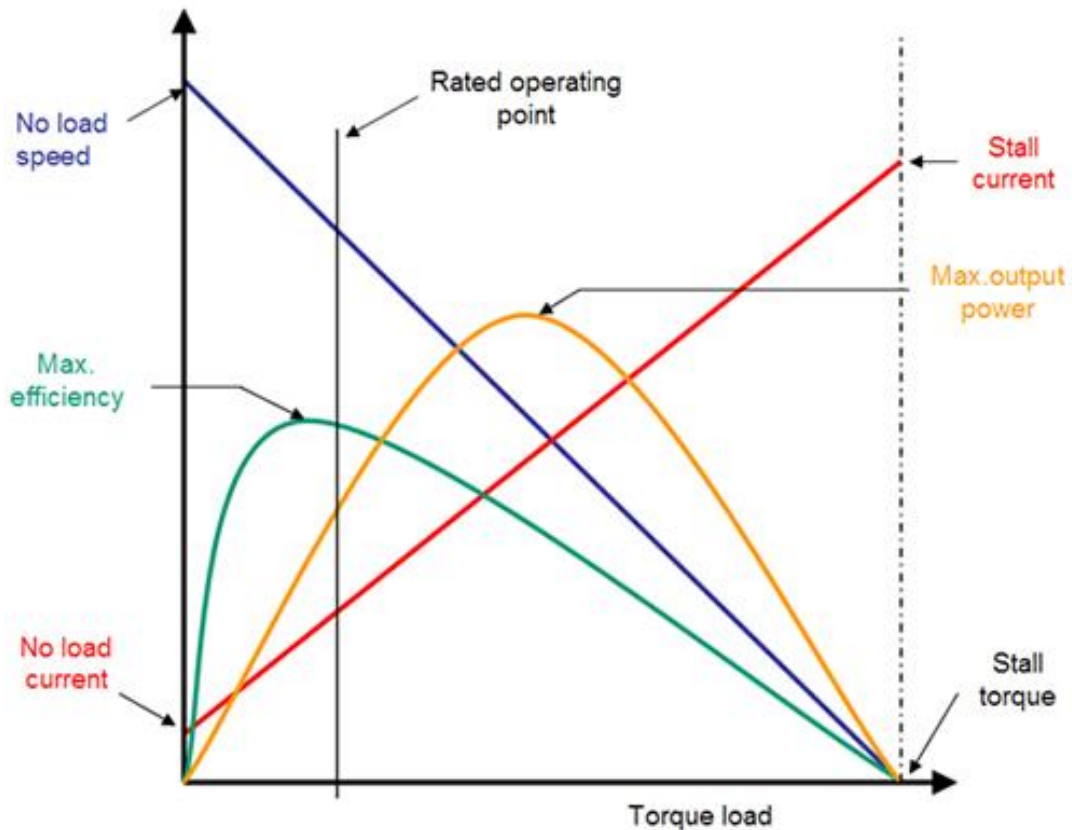

Figure 76
17. The mechanical power output of a machine can be measured using a Newton meter or a force gauge / scale with a pivot arm (see Figure 76). The force gauge will specify the amount of force and the pivot will provide the radius, using these two pieces of information and the following formula the torque of a motor can be determined.